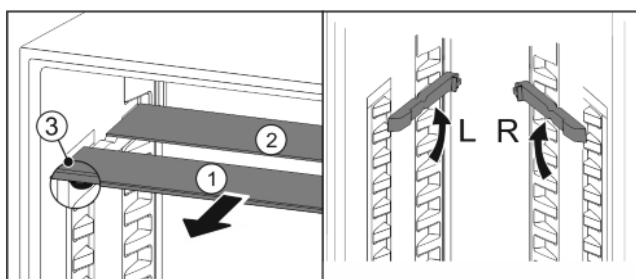

Fig. 19
- ▶ Pull the glass panels out Fig. 19 (1) from the front, one at a time.
- ▷ Glass panel Fig. 19 (1) with pull-out stoppers is at the front.
- ▷ Stoppers are pointing down Fig. 19 (3).